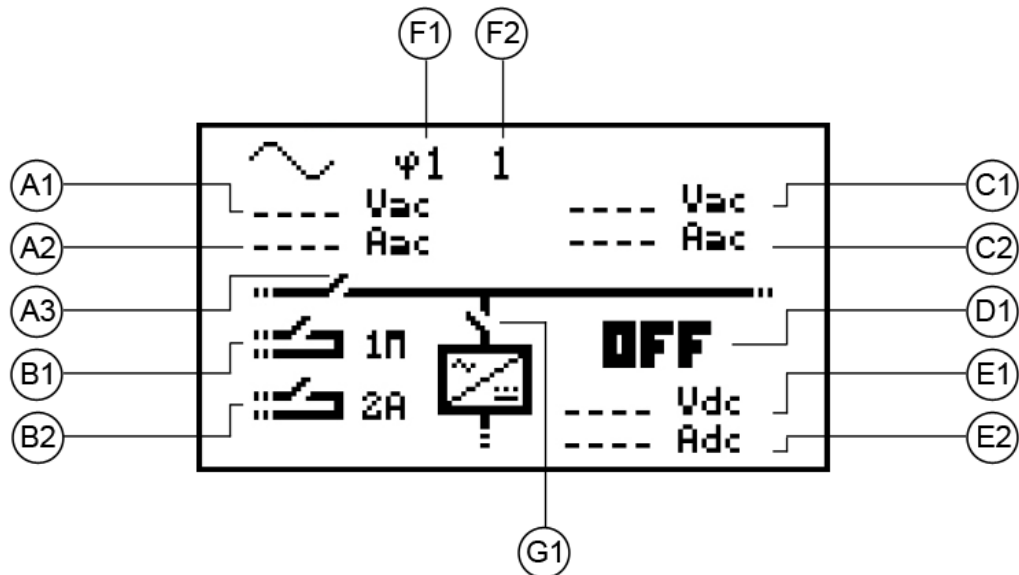

Fig. 4 - The RCC-03
4. The RCC-03 input voltage (Fig. 4, A1) will display the external voltage being applied to the charge facility of the unit.
It is important that the D1, D2 & D3 data connections (Fig.4, D1-3) always have the caps or cable retaining rings secured. Failure to follow this procedure will cause water ingress damage and invalidate the warranty.
2. To check whether the units are configured correctly for three phase operation, check the RCC-03 Cygnus number (Fig. 4, F2). The first unit should display L1, the second L2 and the third L3. **Do not attempt to connect the units in series if this is not the case.**